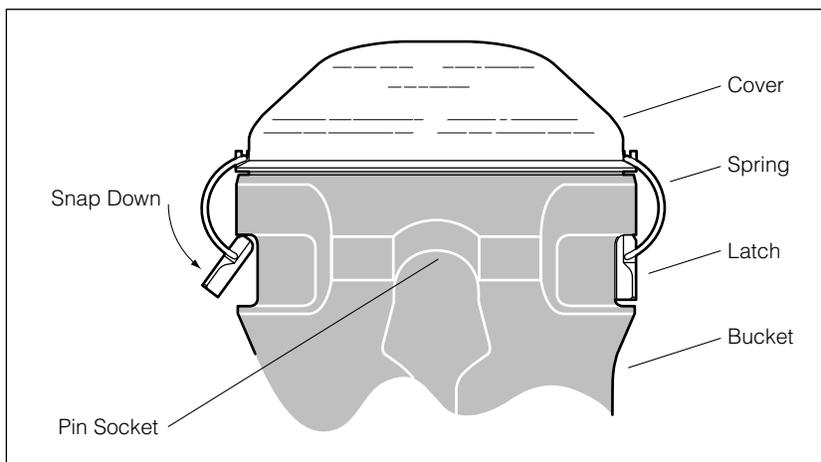

Figure 11. Securing Bucket Cover Latches
4. Place the cover on the bucket with the latches perpendicular to the pin sockets (see Figure 11).